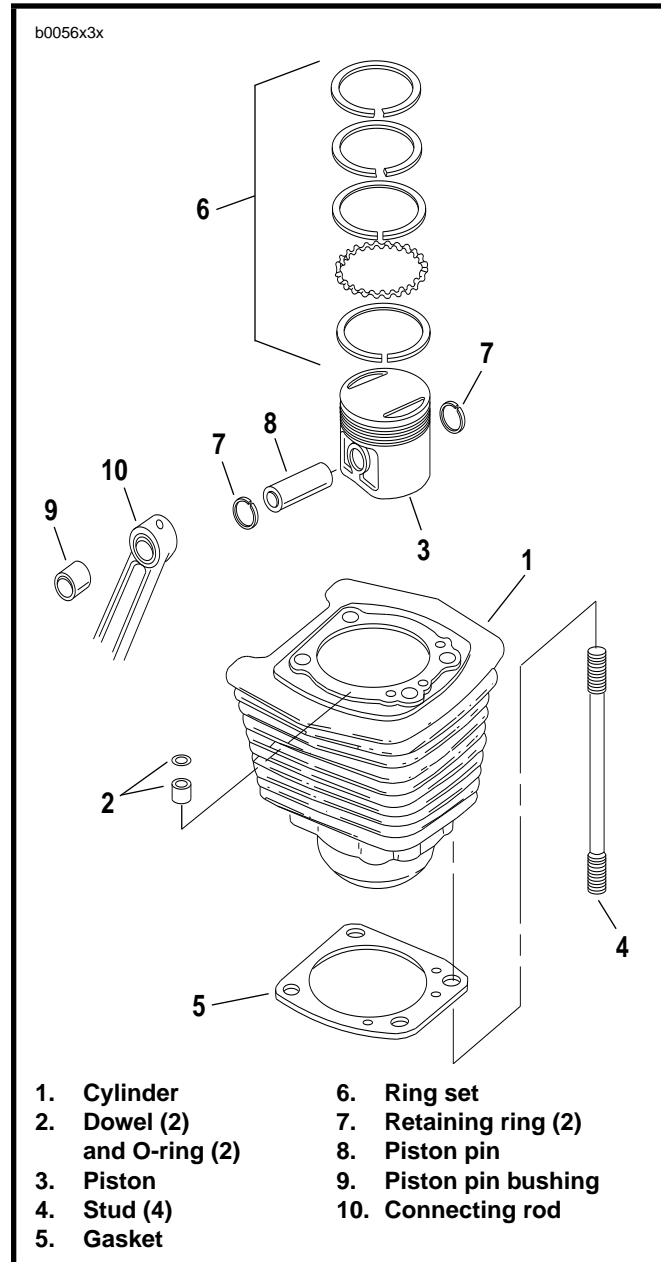

Figure 3-27. Cylinder and Piston
4. See Figure 3-27. Turn engine over until one piston (3) is at bottom of its stroke.